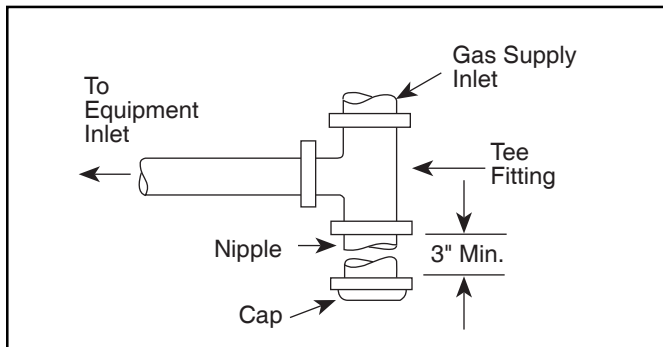

Figure 5 – T-Fitting Sediment Trap Installation
- A trap (drip leg) must be provided ahead of the gas controls (see **Figure 5**). Where required by code, provide a second manual gas shutoff valve. Do not remove manual valve furnished with the heater.